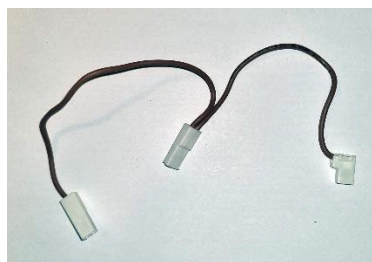

Fig. 2.5
- Remove from 3 (Brew Btn. right-up) the brown wire with white plugs. (this cable make connection between 3, X and W)(fig. 2.5)